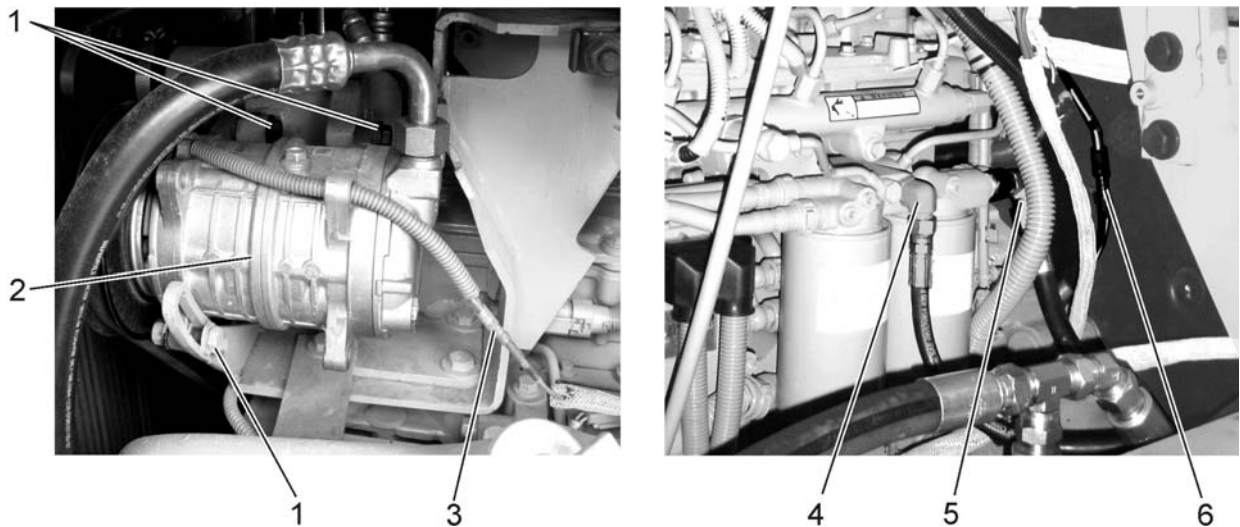

Fig. 12.6. A/C system and Fuel System Disconnecting Points (LH side)
6. Remove cab heater supply hose (2) and return hose (6) from their valves.
7. MACHINES EQUIPPED WITH A/C SYSTEM: Disconnect the A/C system compressor magnetic clutch wire connector (3, Fig. 12.6). Remove bolts (1) securing A/C compressor (2) to the bracket. Remove A/C compressor drive belt. Remove compressor with attached hoses. Do not disconnect the hoses of the compressor. Disconnecting the hoses causes gas escape out of air conditioner system. Secure disassembled assembly out of the way.
8. Disconnect the engine speed sensor connector (6).
18. Reinstall fuel supply hose (5, Fig. 12.6) and return hose (4) to the fuel filter head.
19. Reconnect the engine speed sensor connector (6).
20. MACHINES EQUIPPED WITH AIR CONDITIONER: Reassemble A/C system compressor (2) to the bracket with the bolts (1). Connect the magnetic clutch wire connector (3). Reinstall the belt and adjust correct belt tension. Refer to Operators Manual.